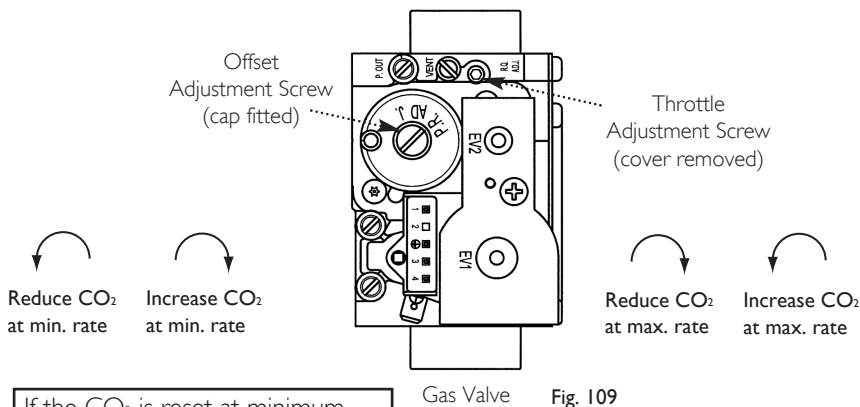

Fig. 109
8. It is possible to alter the CO₂ by adjustment of the gas valve. Remove the plastic cover from the Throttle Adjustment Screw. At maximum rate the Throttle Adjustment Screw should be turned, using a suitable hexagon key, until the correct reading is obtained (Fig. 109). Turning clockwise will reduce the CO₂. Anticlockwise will increase the CO₂.
10. With the boiler on minimum, the Offset Adjustment Screw must be altered, using a suitable hexagon key, after removing the cap (Fig. 109). Turning anti-clockwise will reduce the CO₂. Clockwise will increase the CO₂.